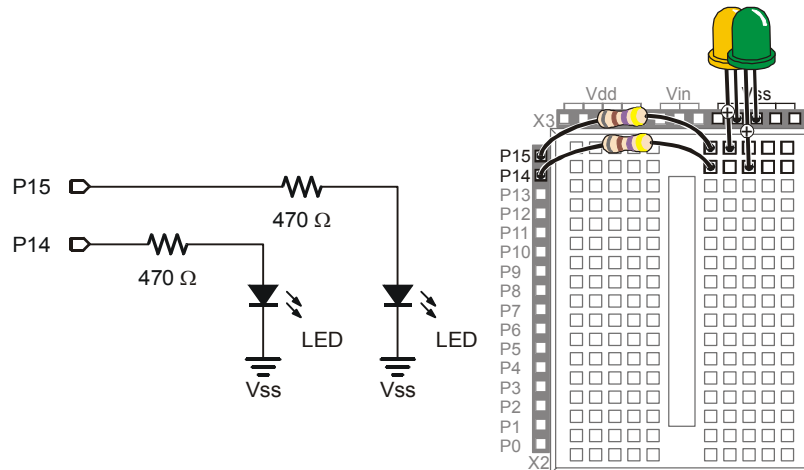

Figure 2-15
- ✓ Modify the second LED circuit you just tested by connecting the LED circuit's resistor lead (input) to P15 as shown in Figure 2-15.